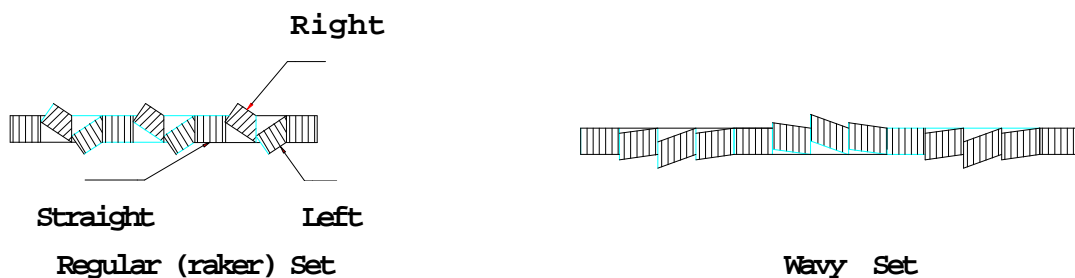

Fig. 7.2 The saw set
- Wavy set has groups of teeth set alternately to right and left, forming a wave-like pattern. This reduces the stress on each individual tooth, making it suitable for cutting thin material or a variety of materials where blade changing is impractical. Wavy set is often used where tooth breakage is a problem. This is shown in Fig. 7.2 as follows: